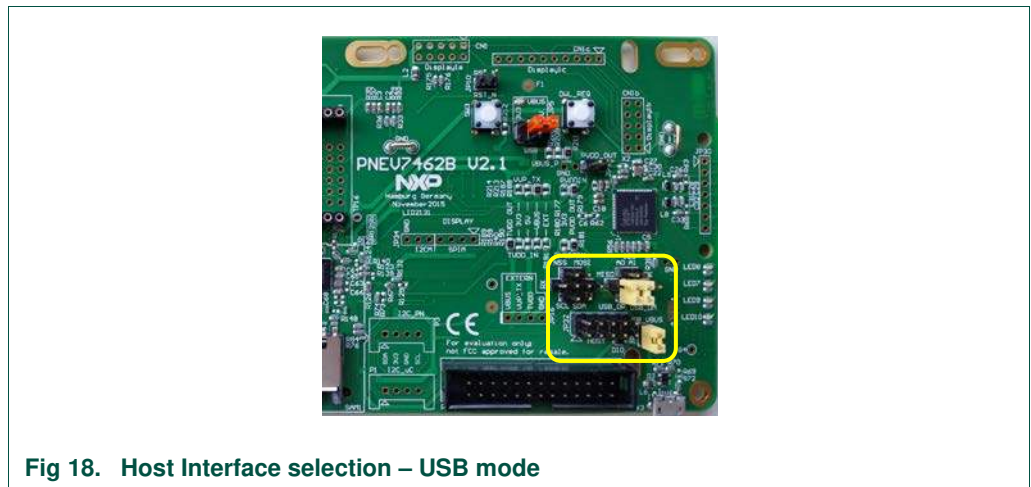

Fig 18. Host Interface selection – USB mode
The antenna connection uses the standard tuning circuit Fig 10. The EMC filter is typically a second order low pass filter as shown in Fig 18, and contains an inductor (L_0) and a capacitor (C_0). The cut off frequency defines the overall detuning behavior as well as the transfer function of the antenna circuit. For symmetrical (DPC) tuning, EMC filter is designed with a cut off frequency of $f_{EMC} = 14,8$ MHz, and the antenna impedance is tuned to $Z = 20\Omega$.
The yellow marked jumpers (Fig 18) needs to be set for using the I2C host interface of the chip with LPCXpresso expansion board. This will connect the I2C SCL of the PN7462AU to the I/O P0 (28) and also the I2C SDA of the PN7462AU to the I/O P0(27) of the LPCXpresso board.